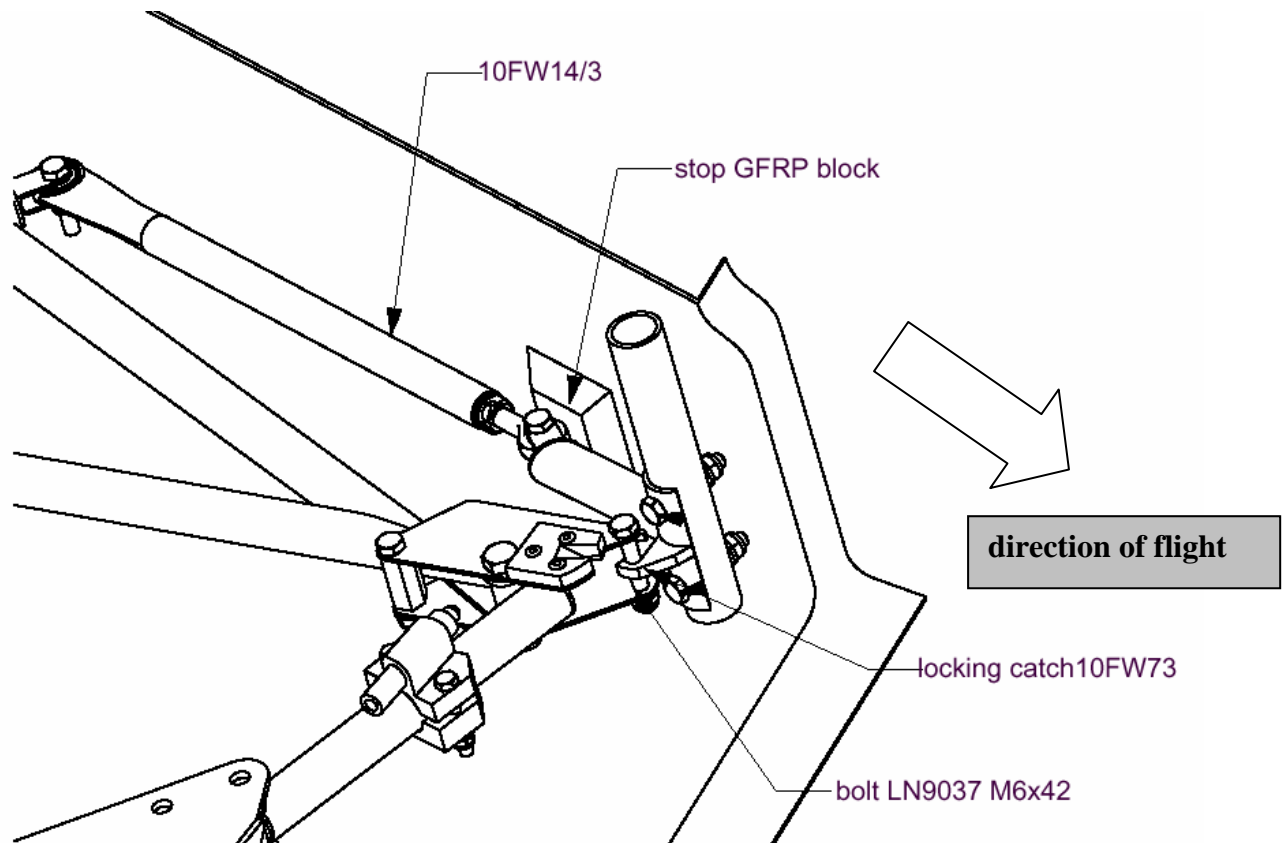

figure 6: Installation of the locking catch. View landing gear retracted, locking catch engaged.
12. To enlarge the travel of the locking catch 10FW73 you may file off some of the GFRP stop blocks (see figure 6) if necessary.